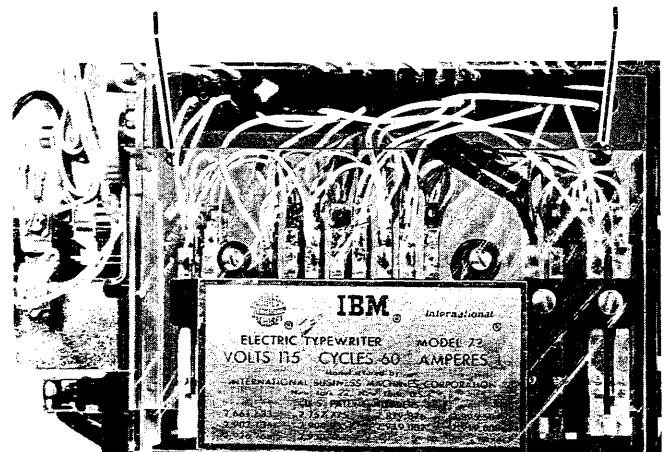

FIGURE 35. Latch Pusher Removal
- * 1. Remove the two screws (#1, Figure 35) that hold the contact plate to the frame. Remove the contact assembly, holding it to the front with a rubber band.